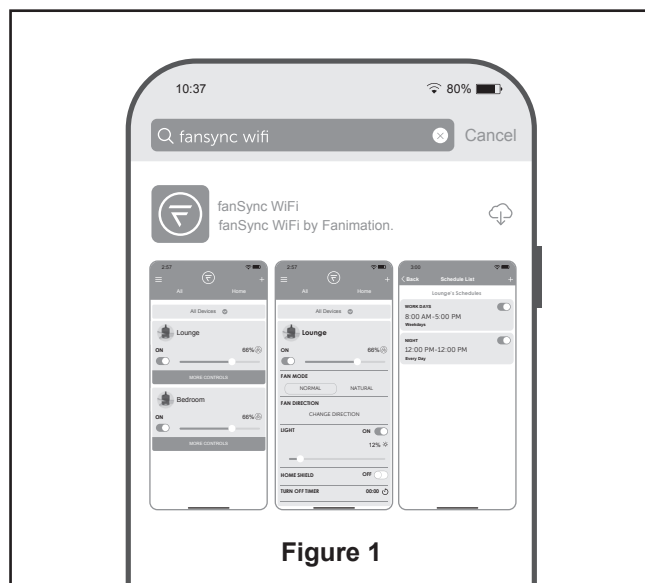

Figure 1
- ☐ **1. Installing Wall Holder:** (Figure 1)
- ☐ 1. Visit the Apple APP Store or the Google Play Store to download the free fanSync WiFi APP. (Figure 1)